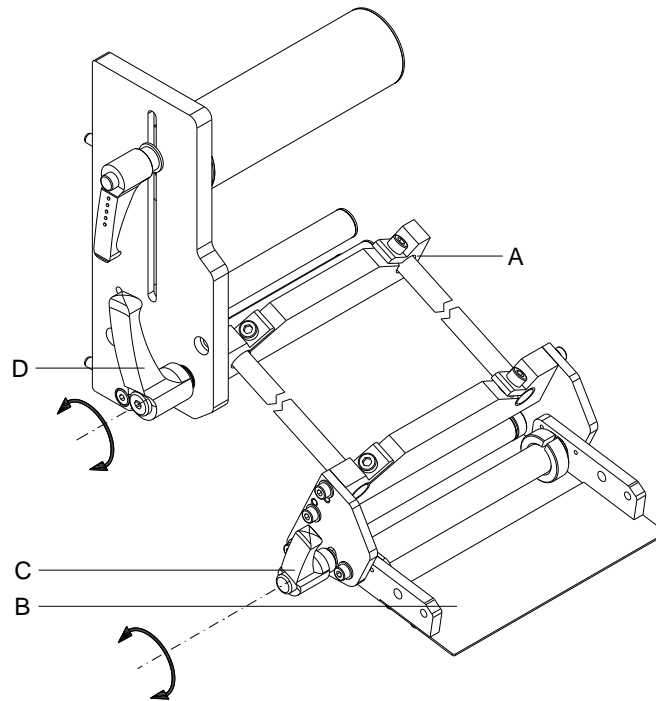

Figure 23
1. Move the dispensing rocker (D) forwards/downwards by pressing the lever (C) downwards.
2. Turn the clamping lever (C, Figure 23, page 36) against clockwise direction to loosen the dispensing edge (B, Figure 23, page 36).
3. Change the angle position of the dispensing edge (B, Figure 23, page 36) as required.
4. Turn the clamping lever (C, Figure 23, page 36) in clockwise direction to fix the position of dispensing edge (B, Figure 23, page 36).
5. Turn the internal rewriter (A) of the printing module as long as the backing paper is tightened.
6. Press the dispensing rocker (C) again upwards and engage.